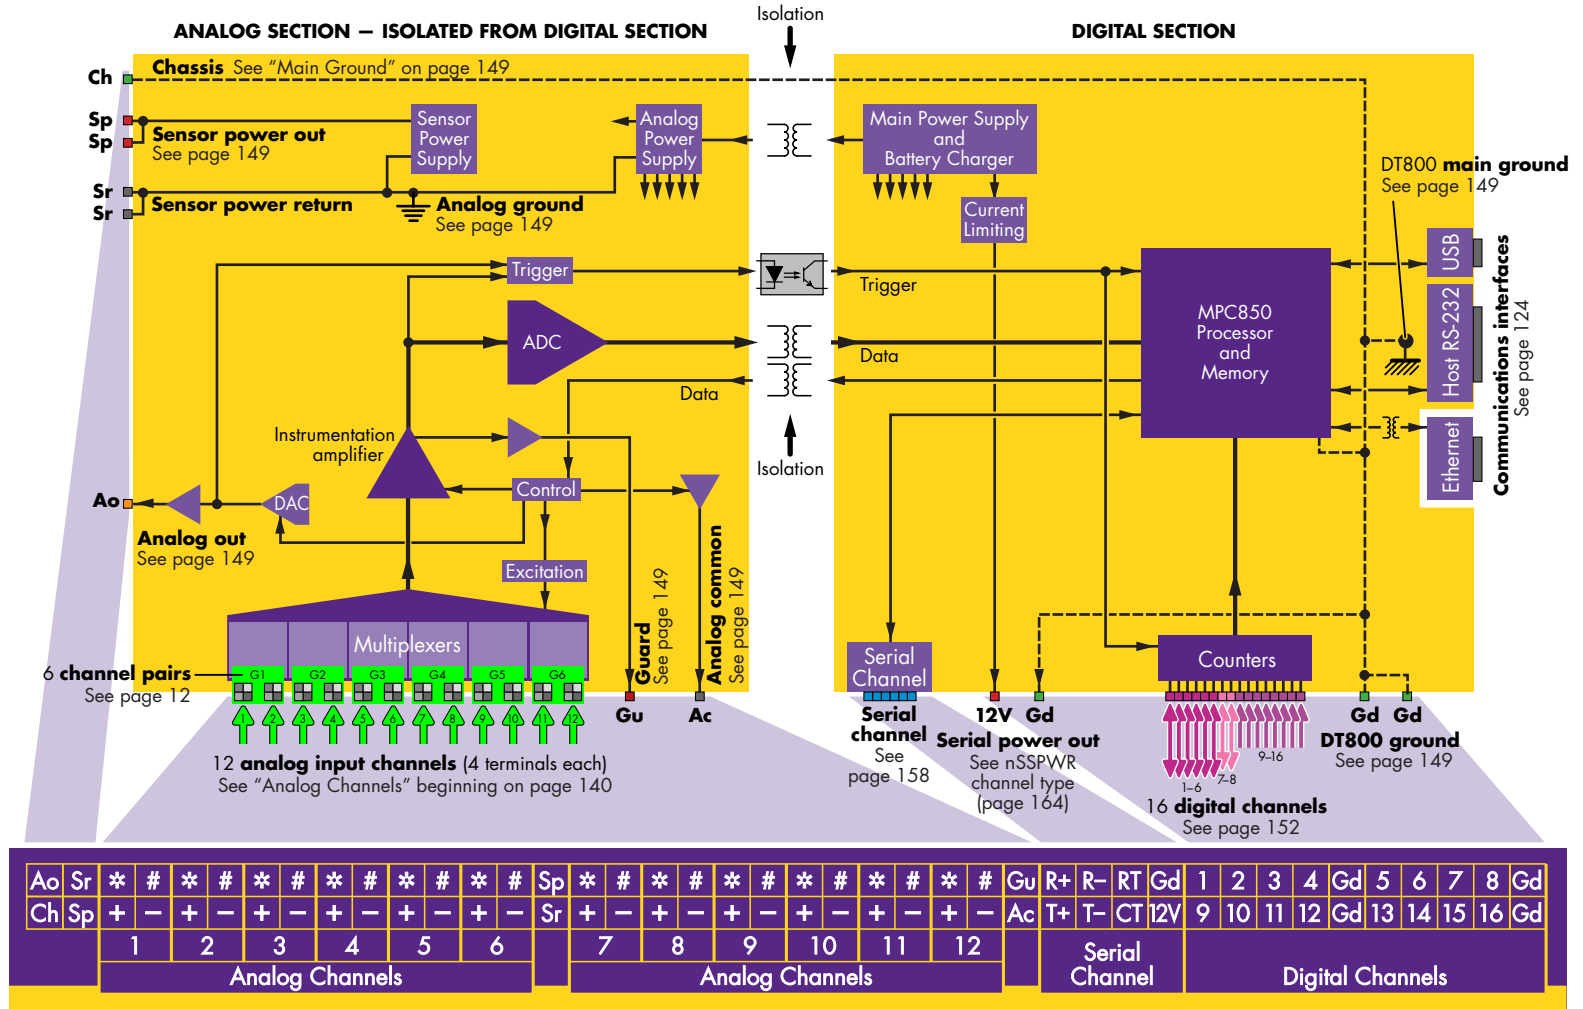

FIGURE 92 DT800 block diagram – see also Figure 11 on page 24
- the DT800 analog section is electrically isolated from the rest of the DT800 (see Figure 92)
The DT800 has a number of terminals associated with the analog sub-system that provide additional versatility in the measuring system. See Figure 92 on page 148.
As shown in Figure 92 (page 148), the DT800’s true, “quiet”, internal ground reference point — its “main ground” — is brought out to four terminals on the front panel. Three are labelled **Gd** (**G**round) and the fourth is labelled **Ch** (**C**hassis) — see Figure 11 (page 24). The similarities and differences are as follows:
- Wire the DT800 analog sub-system making full use of its internal isolation — see Figures 92 and 94.